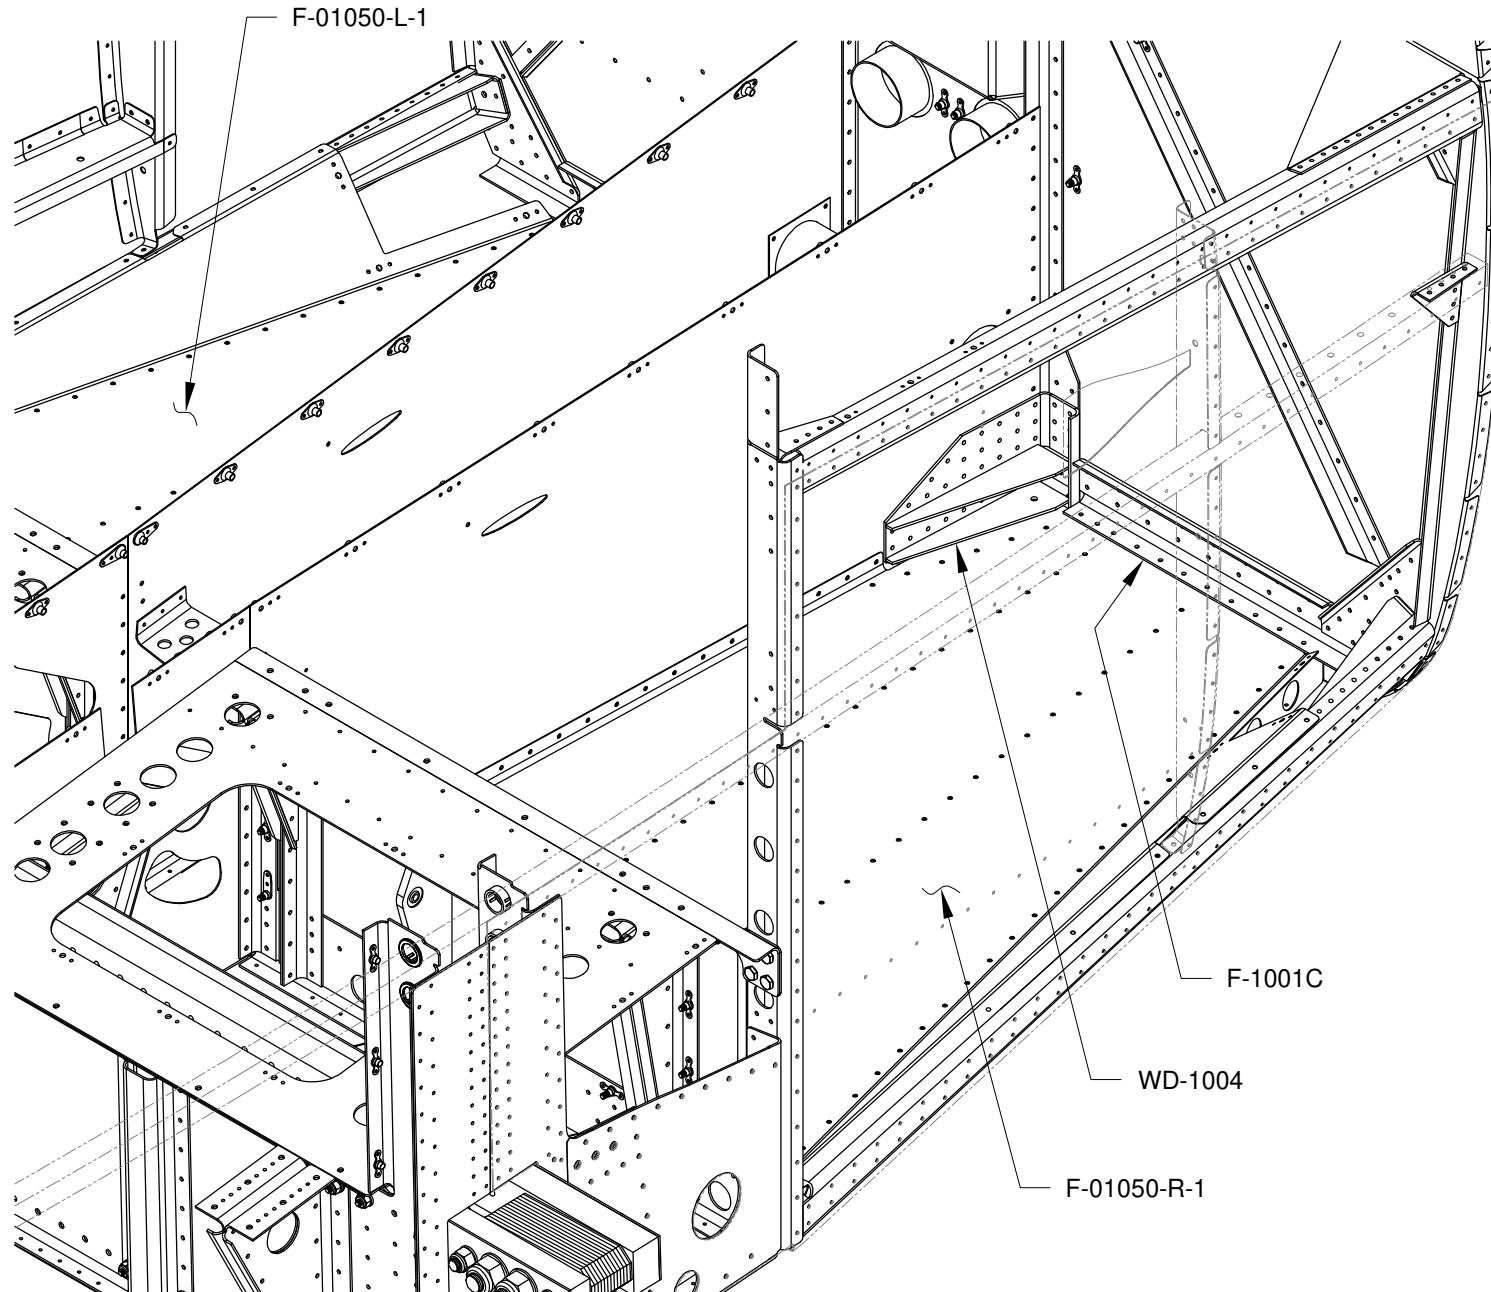

FIGURE 1: FWD CABIN FLOOR PANEL INSTALLATION
Step 1: Install the F-01050-R-1 Fwd Cabin Floor Panel into the fuselage by inserting its forward inboard corner beneath the WD-1004 Nose Gear Tension Fitting, then slide its forward edge beneath the F-1001C Firewall Lower Channel as shown in Figure 1.